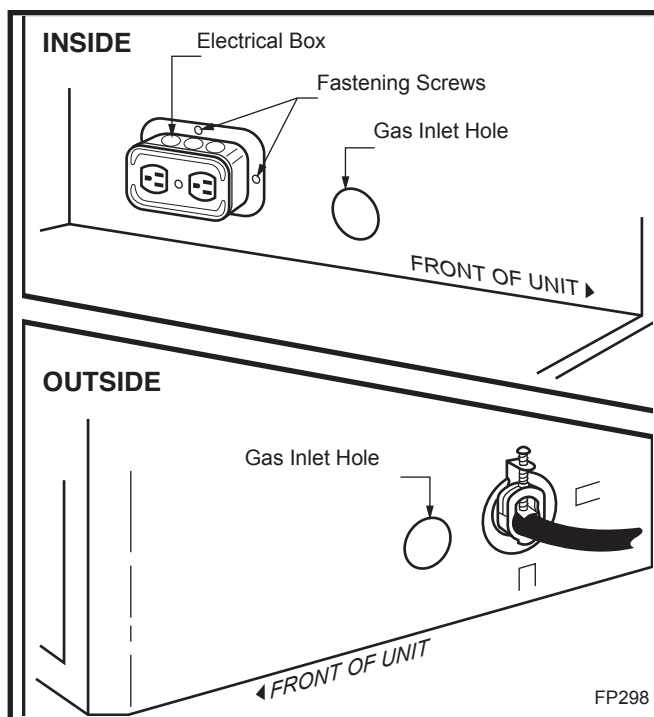

Fig. 9 Junction box (EB-1) hook-up.
1. Remove 2" knockout. Slide the electrical box back plate into the back and bottom lances (clips) while fitting the box connector into the knockout. Fasten into place with fastening screws provided. (Fig. 9)